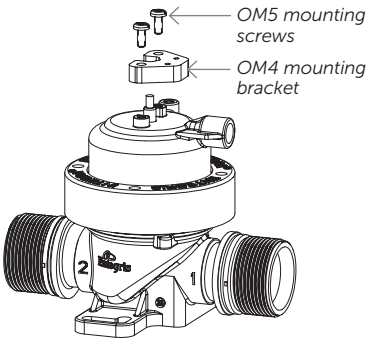

Figure 4.
22. For Omron kit only, install mounting bracket (OM4) using 2X #8-32 mounting screws (OM5). Refer to Figure 4.